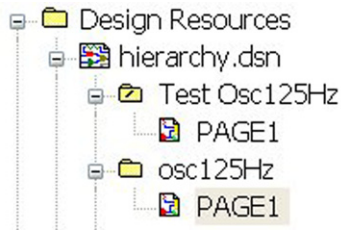

FIGURE 20.32
7. Save the design and highlight the **Test Osc125Hz** and **rmb > Make Root**. This time the **Test Osc125Hz** will be placed at the top of the hierarchy and a slash symbol will appear in the yellow folder (Figure 20.32). If you do not see the response as shown, check the power supplies and make sure that you placed an initial condition on C1.